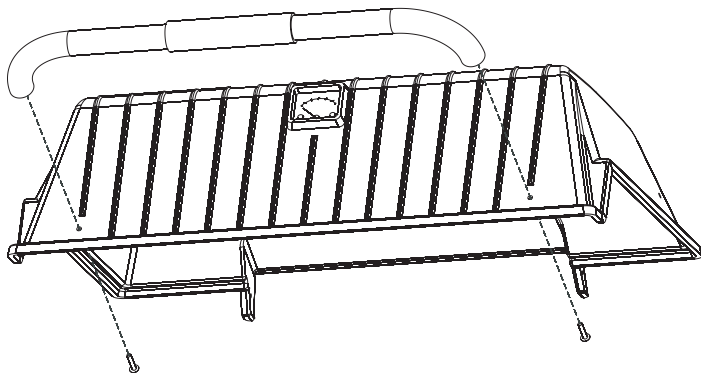

Figure 32
9. Fasten the lid handle to the grill body top with two #10-24 x 1" screws. **See Figure 32.**